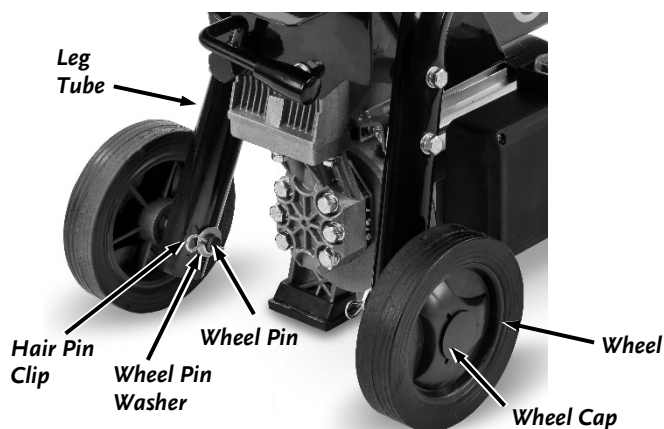

Figure 2
2. Secure the Wheels to the Leg Tube with a Wheel Pin Washer and Cotter Pin inserted into the end of the Wheel Pin (**Figure 2**).